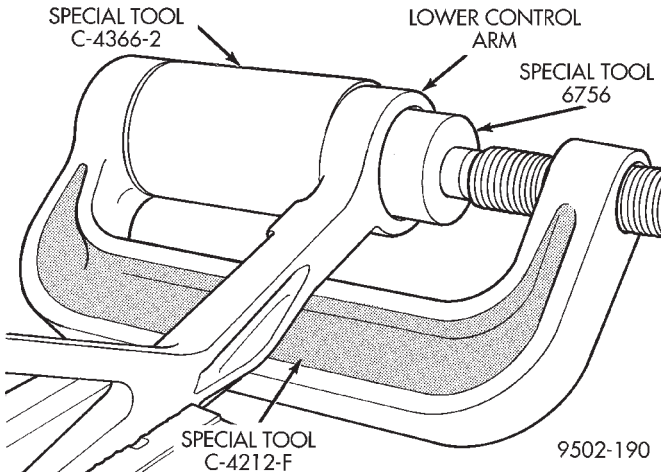

Fig. 101 Removing Lower Control Arm Rear Bushing
(1) Remove lower control arm assembly from vehicle. See Lower Control Arm Removal in this section of the service manual for the required removal procedure.
(2) Install Bushing Remover, Special Tool 6756 and Bushing Receiver, Special Tool C-4366-2 on Special Tool C-4212-F (Fig. 101).
(3) Install Special Tools assembled for removal of the rear isolator bushing on the lower control arm. Be sure Special Tool C-4366-2 is square on lower control arm and Special Tool 6756 is positioned correctly on isolator bushing (Fig. 101).
(4) Tighten screw on Remover/Installer Special Tool C-4212-F to press rear bushing out of lower control arm.